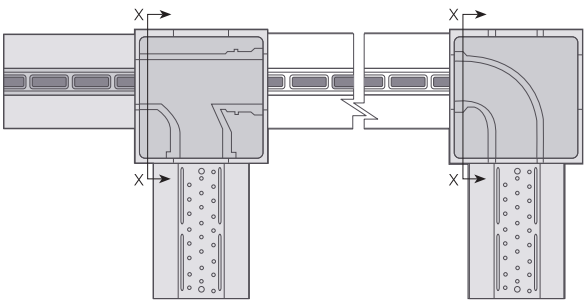

Fig 16a. Clearway/Safeticurb junction bends
- Use silt box top at outlets or with suitable uPVC pipe fittings (cut to fit) to form junctions or sharp bends (see Figs 16a, 16b).